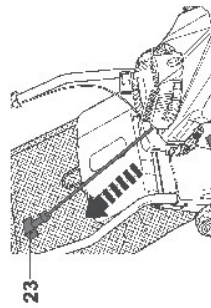

Fig. 9
1. Pull the brake bar (2) towards the handle (1).
2. Pull the recoil starter handle lightly until you feel resistance then pull it rapidly. Do it again until the engine starts (Fig. 9).